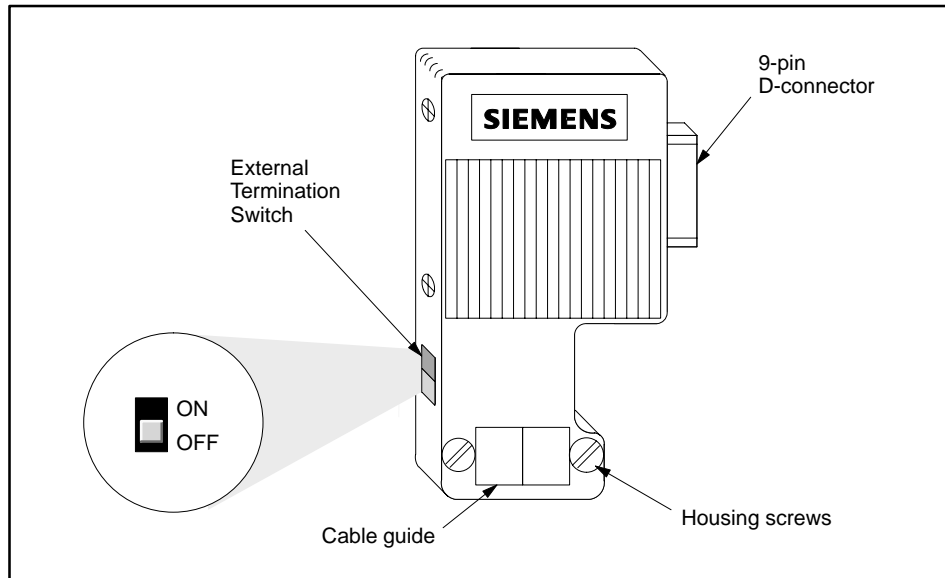

Figure 6-18 Typical PROFIBUS-DP Connector
1. Open the connector housing by loosening both housing screws (see Figure 6-18).